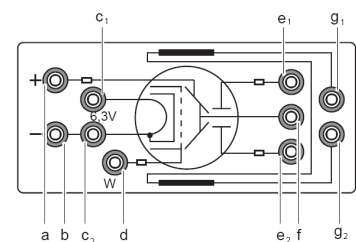

Figure 3.7: Wiring diagram for the apparatus' side panel.
Figures 3.7 and 3.6 show schematically the electrical connections for the electron gun. Note the common ground point (output 2 on Leybold Power supply)
Figure 3.6: Wiring diagram for the electron canon. The power supply Leybold and multimeter for measuring the anode voltage. See Figure 3.7 for details of the wiring diagram on the beam apparatus.
- ▶ You must connect socket 4 to the unit. Which one you use is irrelevant, but one is grounded via contacts b and c_1 in figure 3.7.
- ▶ Switch on the unit and adjust the glow voltage to “6” (V) and observe that the wire glows. This assumes that the ceiling lighting is switched off and the table lighting is dimmed. Note that the glow voltage can be lowered to 5 V during the experiments.